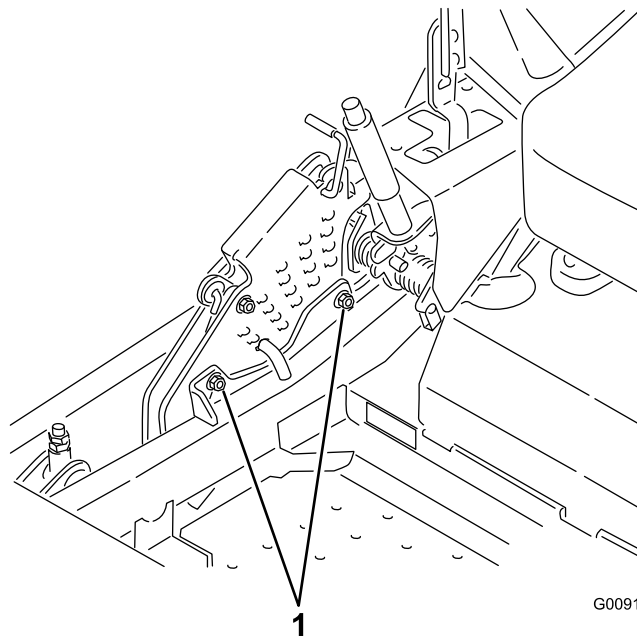

Figure 99
12. To adjust the single-point system, loosen the 2 bolts at the bottom of the height-of-cut plate (Figure 99).
14. Tighten the 2 bolts at the bottom of the height-of-cut plate (Figure 99).